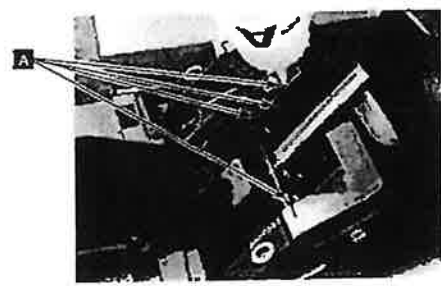

Figure 1
2. Apply several drops of Oil "A" onto the V-edge surfaces of the Chuck gibs (Figure 1). Be sure to apply Oil "A" to both sides, left and right, front and rear.